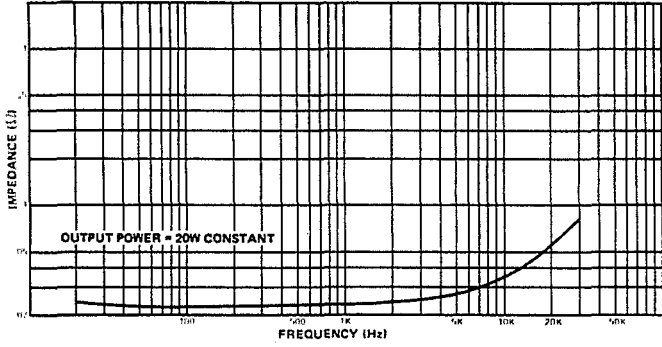

Fig. 9 - Actual Output Impedance vs Frequency
**Actual Output Impedance:** (Refer to Figure 9.)